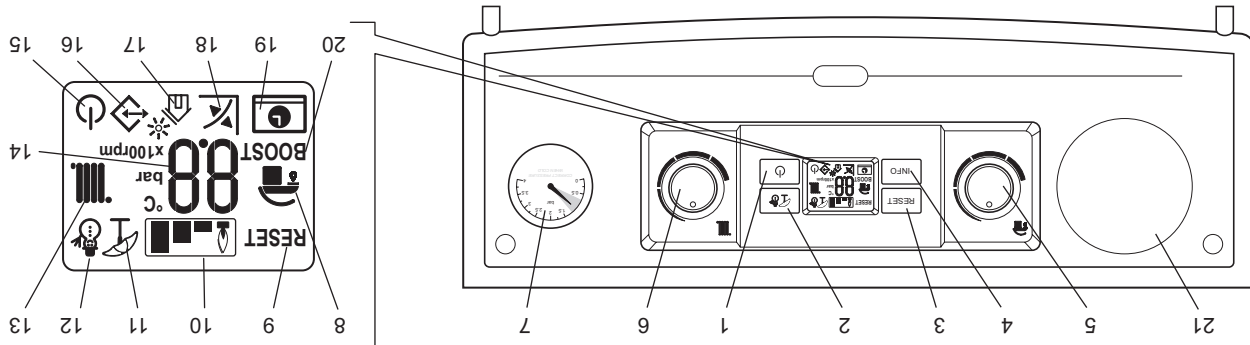

Fig. 1
On - In this mode the boiler can be switched between 'Summer' or 'Winter' settings by pressing the Summer/Winter button (item 2 in Fig. 1).
To fill or pressurise the system open one tap fully by turning it 90° anticlockwise in line with the tap housing. The second tap should be opened a quarter of a turn and the water will start to refill the system (water should be heard filling the system). You should see the pressure gauge (item 7 in Fig. 1) rise back up into the green area on the pressure gauge between 1 bar and 1.5 bar pressure.
The temperature of the hot water to the taps can be adjusted by turning the hot water selector switch (item 5 in Fig. 1) to the required value shown on the display in °C.
The temperature of the central heating water can be adjusted by turning the central heating selector switch (item 6 in Fig. 1). When the heating is on the temperature of the water leaving the boiler to the radiators will be displayed.
If an external weather compensation probe is fitted, indicated by the  symbol (item 18 in Fig. 1) in the display, it will automatically vary the temperature of the water in the radiators and on mild day the radiators will not feel as hot as on a cold day, this is normal and not a fault with the boiler or heating circuit. The room temperature will still be maintained as set by the room thermostat.
When an external weather probe is fitted, the central heating selector switch (item 6 in Fig. 1) will no longer adjust the flow temperature in °C, instead the display will show a scale of 1 to 9. Each number corresponds to a line on the graph in Fig 2 i.e. line 6 will give a flow temperature of 60°C when the external temperature is 10°C.
Make sure the heating system is filled and the needle on the pressure gauge (item 7 in Fig. 1) is in the green band. If incorrect refer to Section 5.
Switch the boiler on at the mains supply socket switch. The boiler will automatically go through a system purging operation for 8 minutes; this is indicated by a count down on the display starting from 96. During this operation the pump will turn on and off to help remove any air that may be trapped in the heating system. If the boiler has already been commissioned by the installer then this operation can be terminated by pressing the reset button (item 3 in Fig. 1).
By pressing the On-Off button (item 1 in Fig. 1) the Standby or On mode can be selected, or press and hold the On-Off button for eight seconds to turn the boiler off.